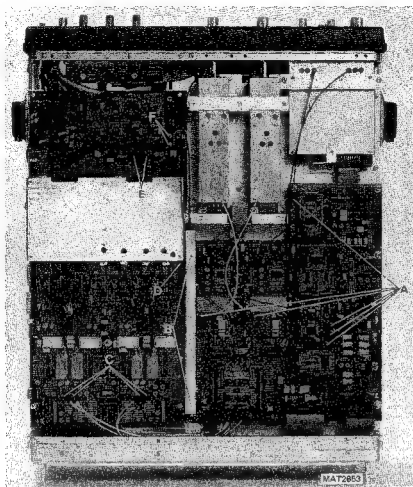

Figure 10.4 Bottom side of the oscilloscope.
The vertical signal unit can be turned up as follows (see figure 10.4):
The P²CCD unit can be turned up as follows (see figure 10.4):
- Unscrew the two screws marked with B in figure 10.4 and remove the profile.